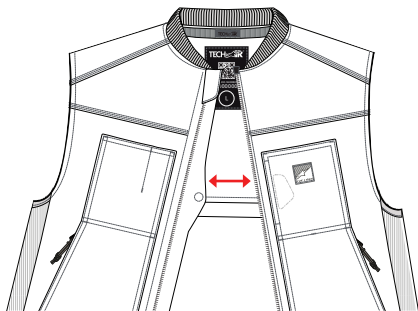

Figure 10
To keep the System switched off, keep the Activation Zip (1) open as shown in Figure 10. Always keep the System in this condition while stored, transported, or shipped (see Section 14 "Cleaning, Storage and Transportation").
**WARNING!** **ALWAYS** switch the System off by opening the Activation Zip (1) when you are not riding a motorcycle, even if you continue to wear the System. Although the System has been evaluated for a number of non-riding activities, keeping the System switched on and/or active increases the possibility of an unwanted deployment and drains the battery. So as a rule, when not riding, always open the Activation Zip (1).